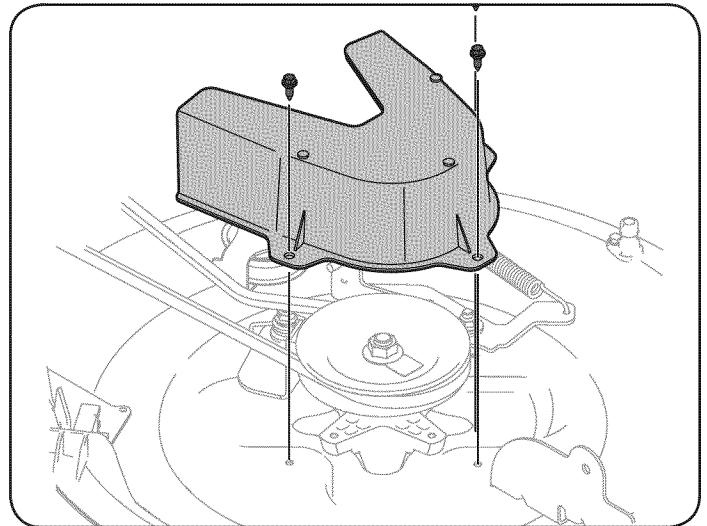

Figure 37
5. Remove the deck belt cover by removing the three hex bolts that secure it. See Figure 37.